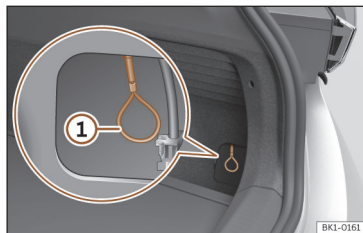

Fig. 62 Behind the cover: emergency unlock of the charging connector.
- Pull the emergency manual release loop ① >>> Fig. 62. The charging connector can be removed >>> .